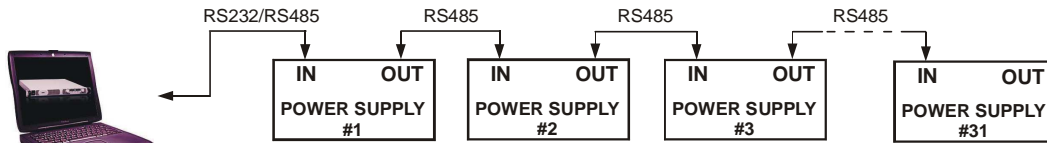

Fig7-5: Multiple power supply RS232/485 connection
2. Other units connection: The other units on the bus are connected via their RS485 interface. Refer to Figure 7-5 for typical connection.